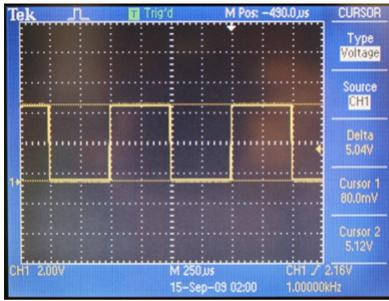

Figure 10: Measuring the peak-to-peak voltage with cursors.
- Change the “Source” to “CH1” (located on the bar at the right of the screen) and play with the knobs until you can measure the peak-to-peak voltage of the square wave. Delta should read 5V as shown in Figure 10.